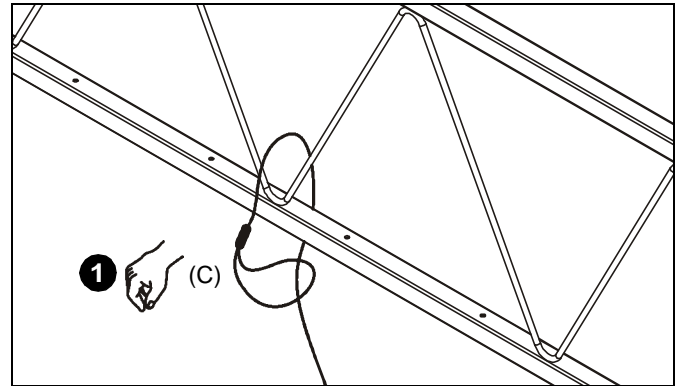

Figure 5
1. Route end of cable (C) over truss at marked cable anchor support location and then through cable loop. (See Figure 5) Repeat for 3 remaining support locations.